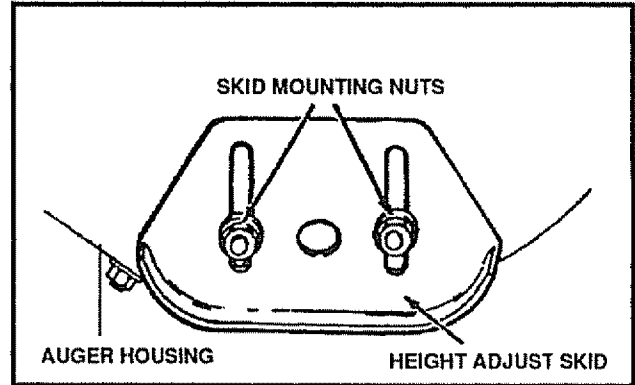

FIG. 21
This snow thrower is equipped with two height adjustment skids, located on the outside of the auger housing (See Fig. 21). These skids elevate the front of the snow thrower.
- Loosen the skid mounting nuts (See Fig. 21), and adjust the skids to allow the front of the snow thrower to rest on the shear bolts. Retighten the mounting nuts.